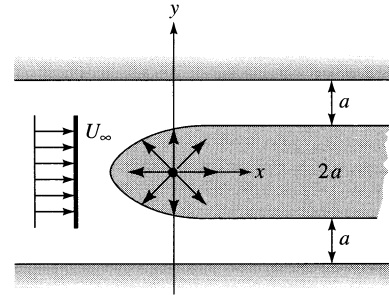

Fig. P8.78
**8.78** Indicate the system of images needed to construct the flow of a uniform stream past a Rankine half-body centered between parallel walls, as in Fig. P8.78. For the particular dimensions shown, estimate the position  $\ell$  of the nose of the resulting half-body.